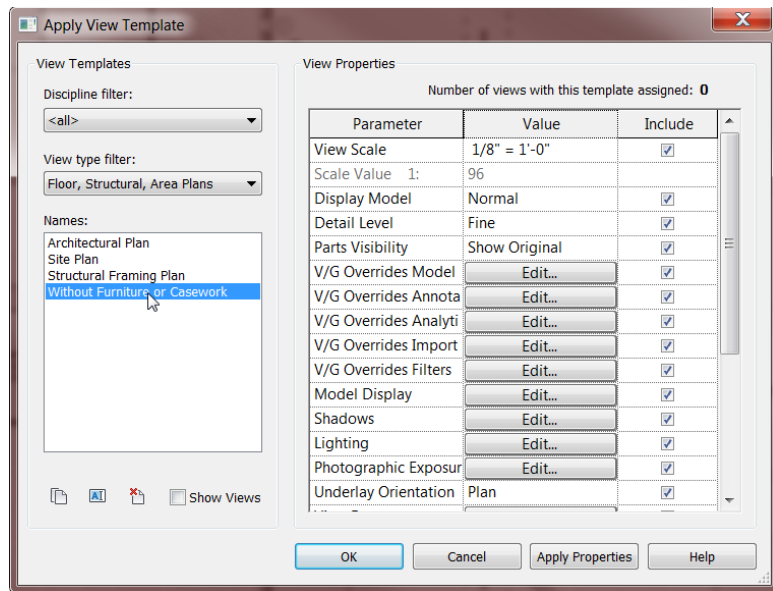

FIGURE 13.14: Selecting the Without Furniture Or Casework template
7. In the Apply View Template dialog box, select the Without Furniture Or Casework template, as shown in Figure 13.14.